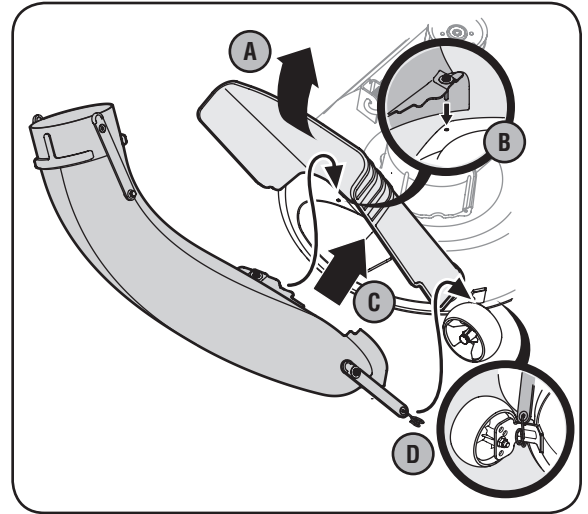

Figure 5-1
2. Raise the chute deflector on the deck (A) and hold it while you position the discharge chute over the chute opening. See Fig. 5-1.
3. Insert the pin (B) on the discharge chute into the hole on the deck as indicated by the arrow in Fig. 5-1.
5. Lock the discharge chute in position by stretching the retainer strap over the front deck wheel bracket and hooking onto the bottom of the bracket as seen in the inset (D) in Fig. 5-1.